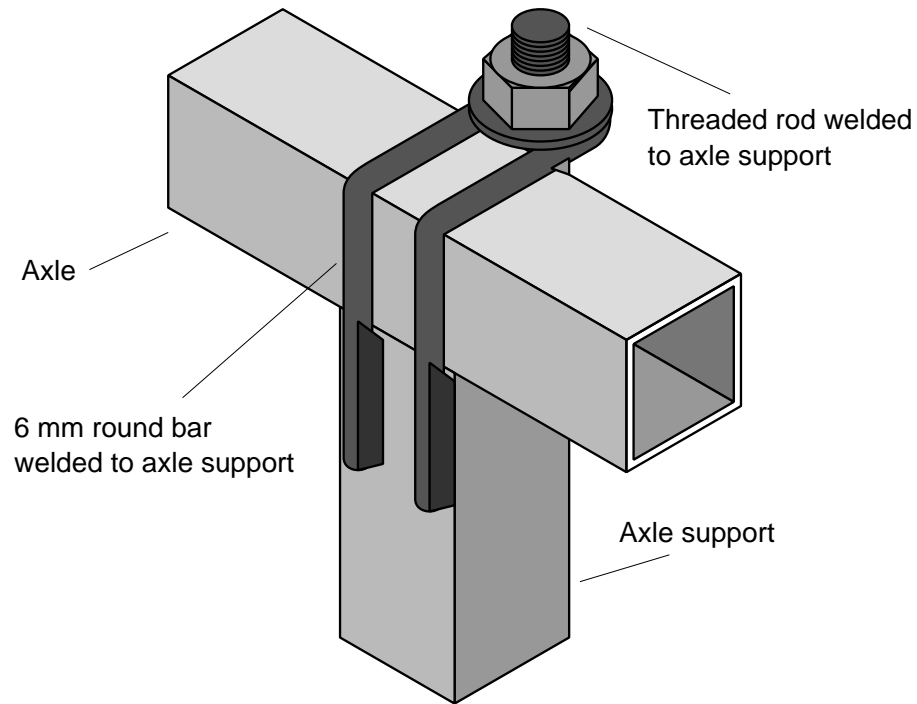

Figure 4: method of fixing axle to axle supports.
- 3) It may be easiest to fix the axle retaining bolts and loops on at this stage so that you can use them in the next stage. Figure 4 shows a good way to fix a square axle on.